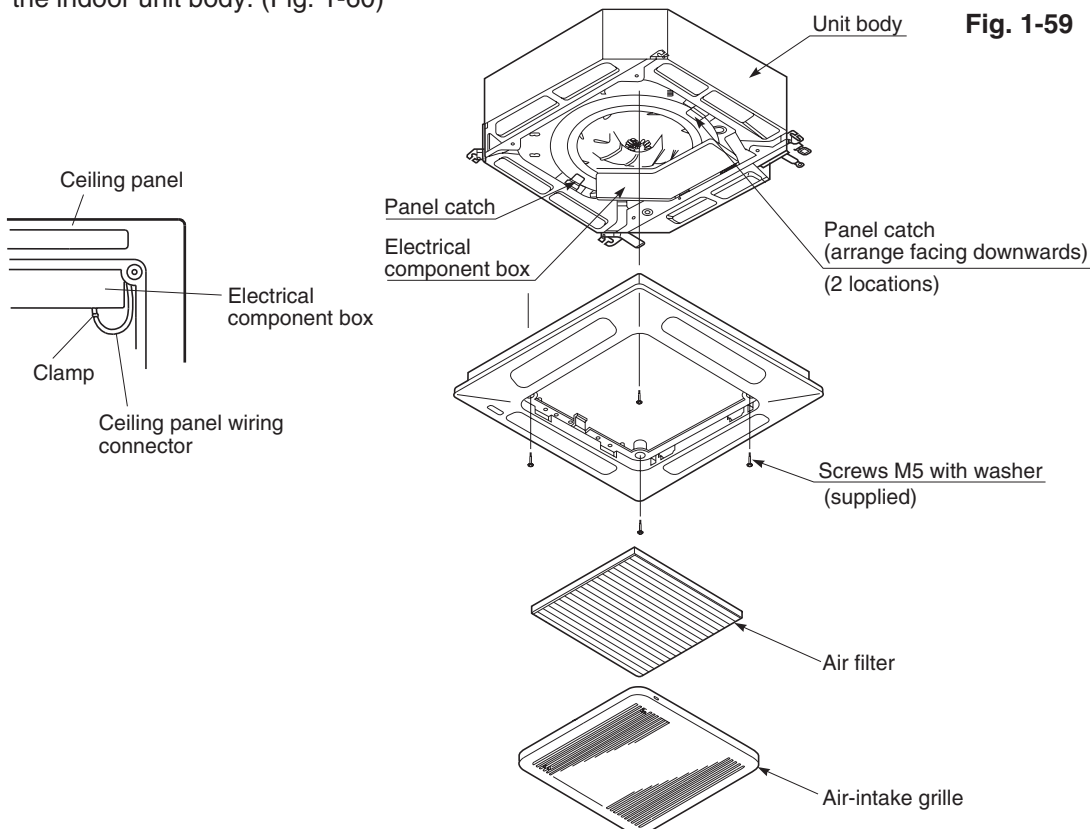

Fig. 1-60
- (2) Pull down the two panel catches on the body of the indoor unit body. (Fig. 1-60)